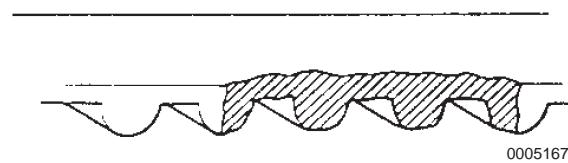

Figure 5-169
- If only one side of the belt is worn or damaged, check each timing pulley for wear or damage radially and axially (**Figure 5-169**).